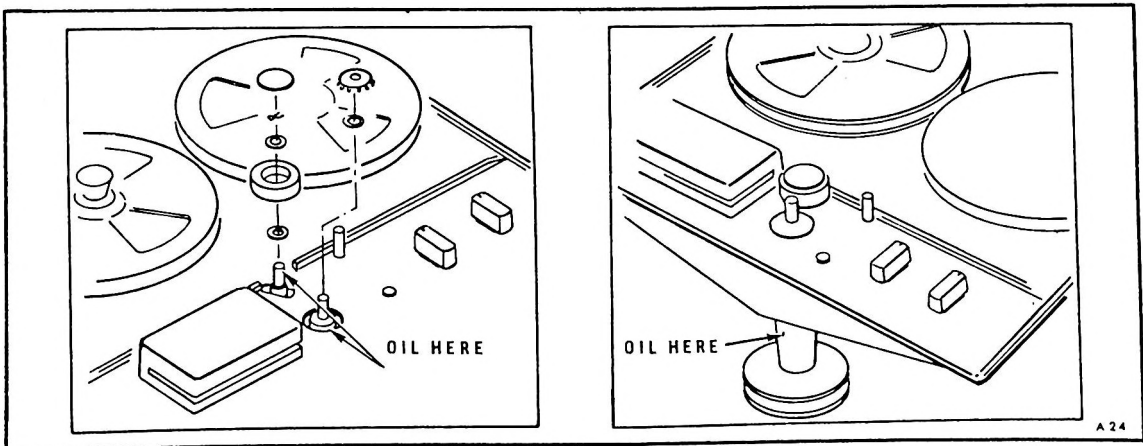

Figure 4-1. Capstan and Idler Bearing Lubrication
4.13 CAPSTAN IDLER SIXTH-MONTH LUBRICATION (See Figure 4-1)
Step 7: Lubricate the capstan lower bearing through the oil hole (see Figure 4-1) with exactly four drops of oil.